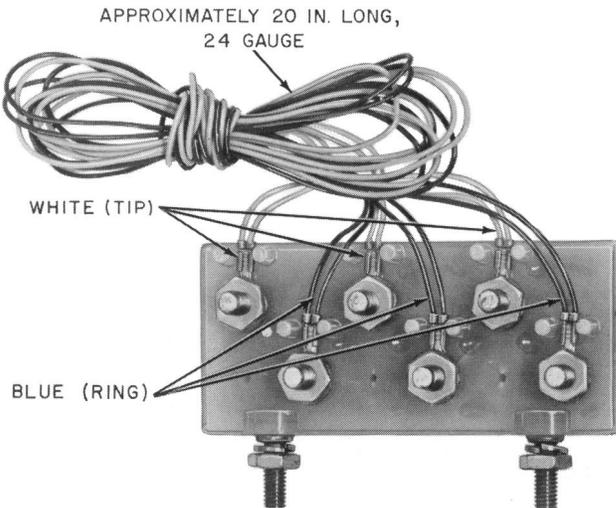

Fig. 22—3A3-3 Terminal Block
**3.06** The 3A4-3 terminal block (Fig. 21) replaces the 3A3-2 and 3A3-3 (Fig. 22) terminal blocks for use in the 49-type cable terminal. The 3A3-2 and 3A3-3 terminal blocks will be rated manufacture discontinued (MD).